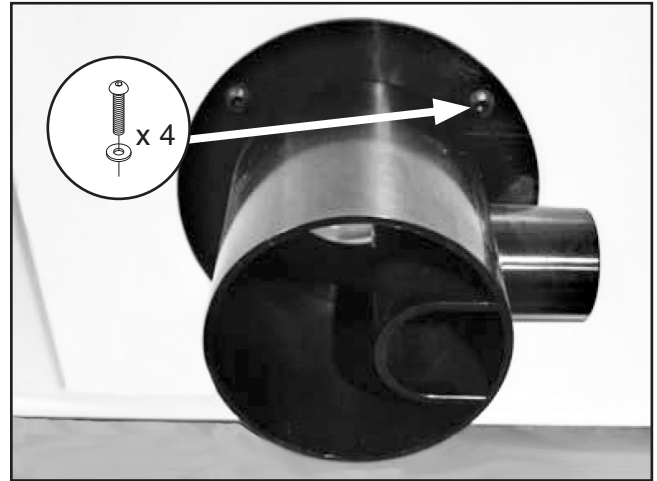

Figure 31. Dust port installed.
25. Attach dust port to cabinet using (4) M6-1 x 12 button head cap screws and (4) 6mm flat washers, as shown in **Figure 31**.